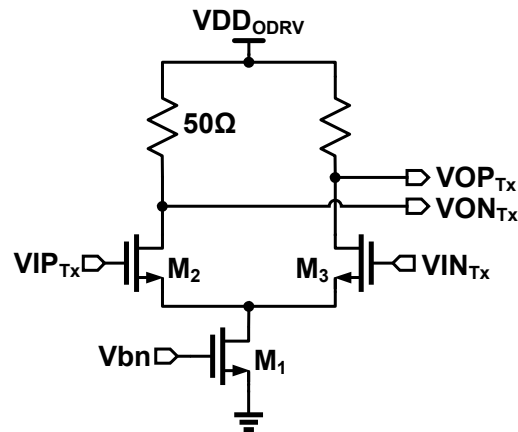

Figure 2: Schematic diagram of a current mode logic (CML) based output driver.
2. Design a 5 Gb/s current mode output driver (see Fig. 2) with the following attributes: